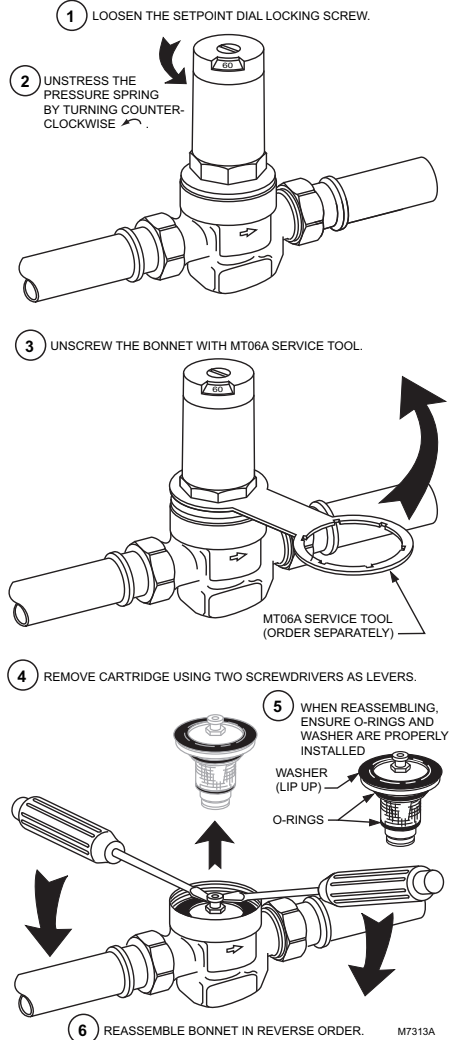

Fig. 2. Replacing the DS05 cartridge.
Replacing the Cartridge (See Fig. 2)
4. Remove the cartridge using two screwdrivers as levers as shown in Fig. 2.